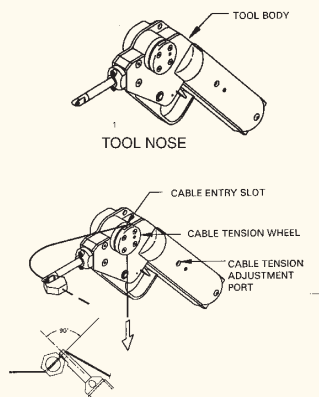

FIGURE 18: Pneumatic Safe-T-Cable® Application Tool
4. The SCTP Pneumatic Safe-T-Cable® application tool (Figure 18). Connect the Pneumatic Safe-T-Cable® Tool to a clean, dry air supply of 80 to 100 psi.